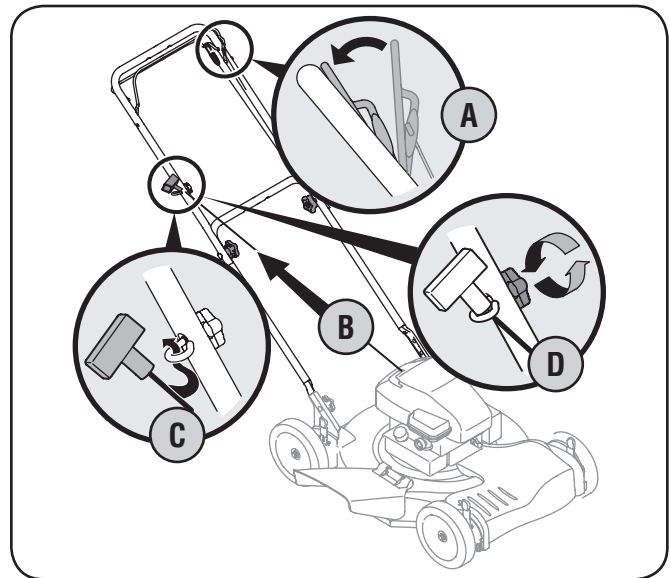

Figure 3-5
4. The rope guide is attached to the right side of the upper handle. Loosen the wing nut which secures it to the upper handle. Refer to Fig. 3-5.